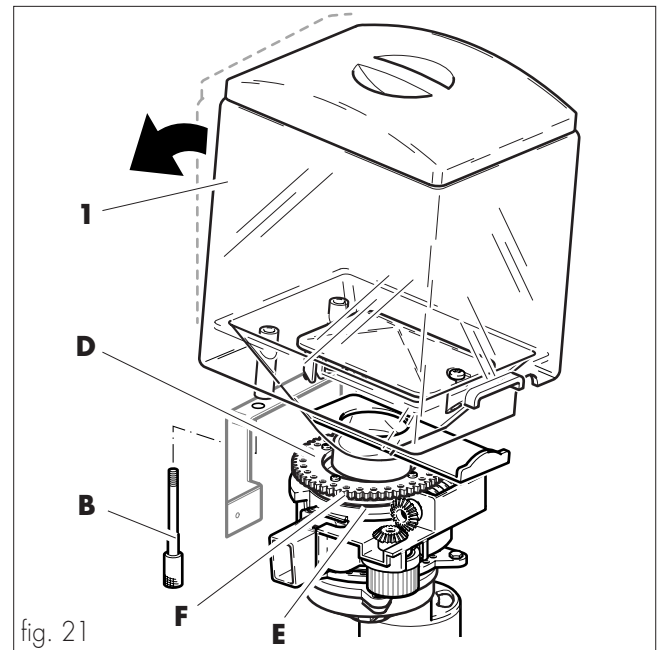

fig. 21
- Re-position the coffee hopper (ref. **1**, fig. 21) by first hooking the front part and then rotating it downwards.
*Attention should be paid to the positioning of the gasket (ref. **F**, fig. 21) which must fit properly in the geared wheel (ref. **D**, fig. 21) and the ring nut (ref. **E**, fig. 21).*
- Secure the hopper (ref. **7**, fig. 21) by hand-tightening the screws (ref. **B**, fig. 21).